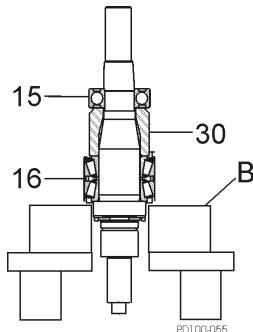

Figure 76 - Remove Bearings From Shaft
9. Use a hydraulic press and V-blocks (Figure 76, item B) to remove the bearings (items 15 and 16) and spacer (item 30)